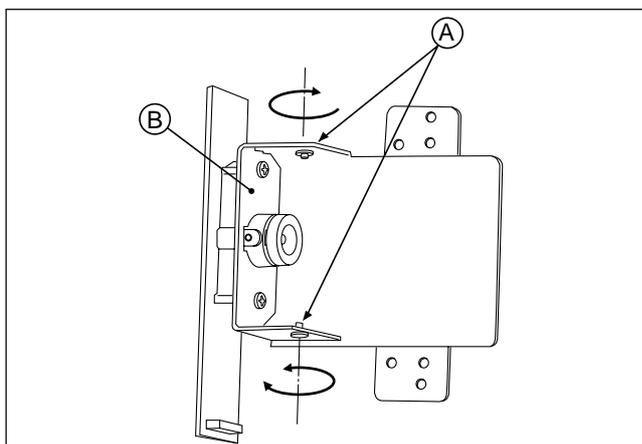
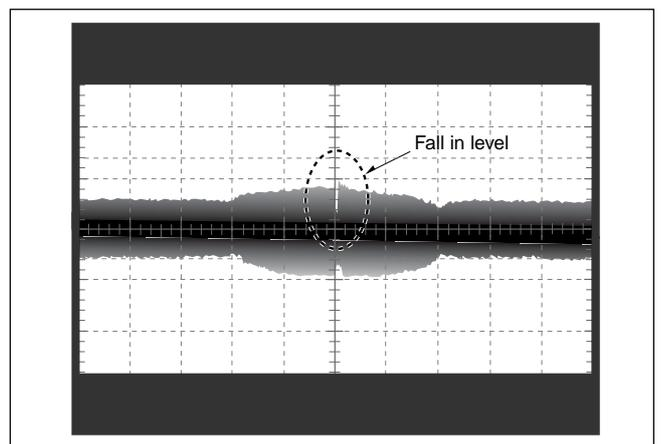

Fig. 9
Fig. 10
- Loosen screw A shown in Figure 9, move metal sheet B so that the scale end is moved from the state in which it is not displayed on the oscilloscope, and fix screw A when the waveform falls to the intermediate level as shown in Figure 10.